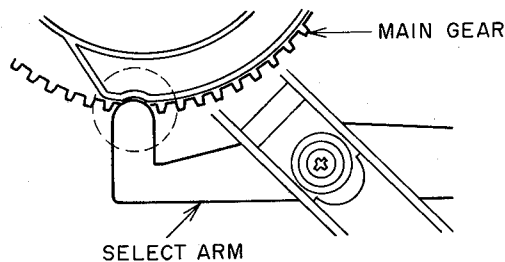
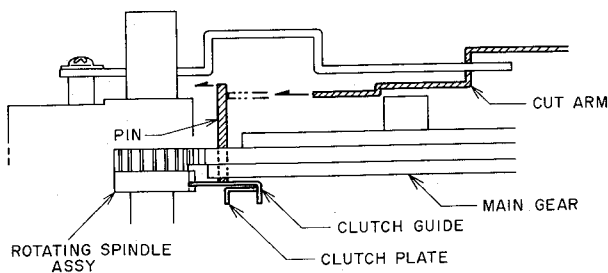

Fig. 5-6
Fig. 5-7
- 5) The position of the lead-in/out for both the 30 and 17 cm size is determined by the selector, arm loading assy and the position of the select arm. So if there is too much play on the select arm, it will move away from the main gear. Even on start, this can cause the tone arm not to reach the lead-in position or even when it does reach the position, it fails to reach the lead-out position. So check that the select arm contacts the main gear fully as in Fig. 5-6. As shown in Fig. 5-7, the lead-out uses contact between the cut arm and the clutch guide on the main gear block. Make sure that when on lead-out, the cut arm touches the pin on the clutch guide, and the clutch plate catches the rotating spindle assy. The cut arm is made of aluminum and is mechanically weak, so if the lead-out is faulty check the curve of the arm. If lead-out adjustment cannot be achieved by adjusting the lead adjuster eccentric pin, adjustment is possible by bending the cut arm slightly. If even then adjustment cannot be achieved, other mechanical faults might be the cause, so check other mechanical parts.